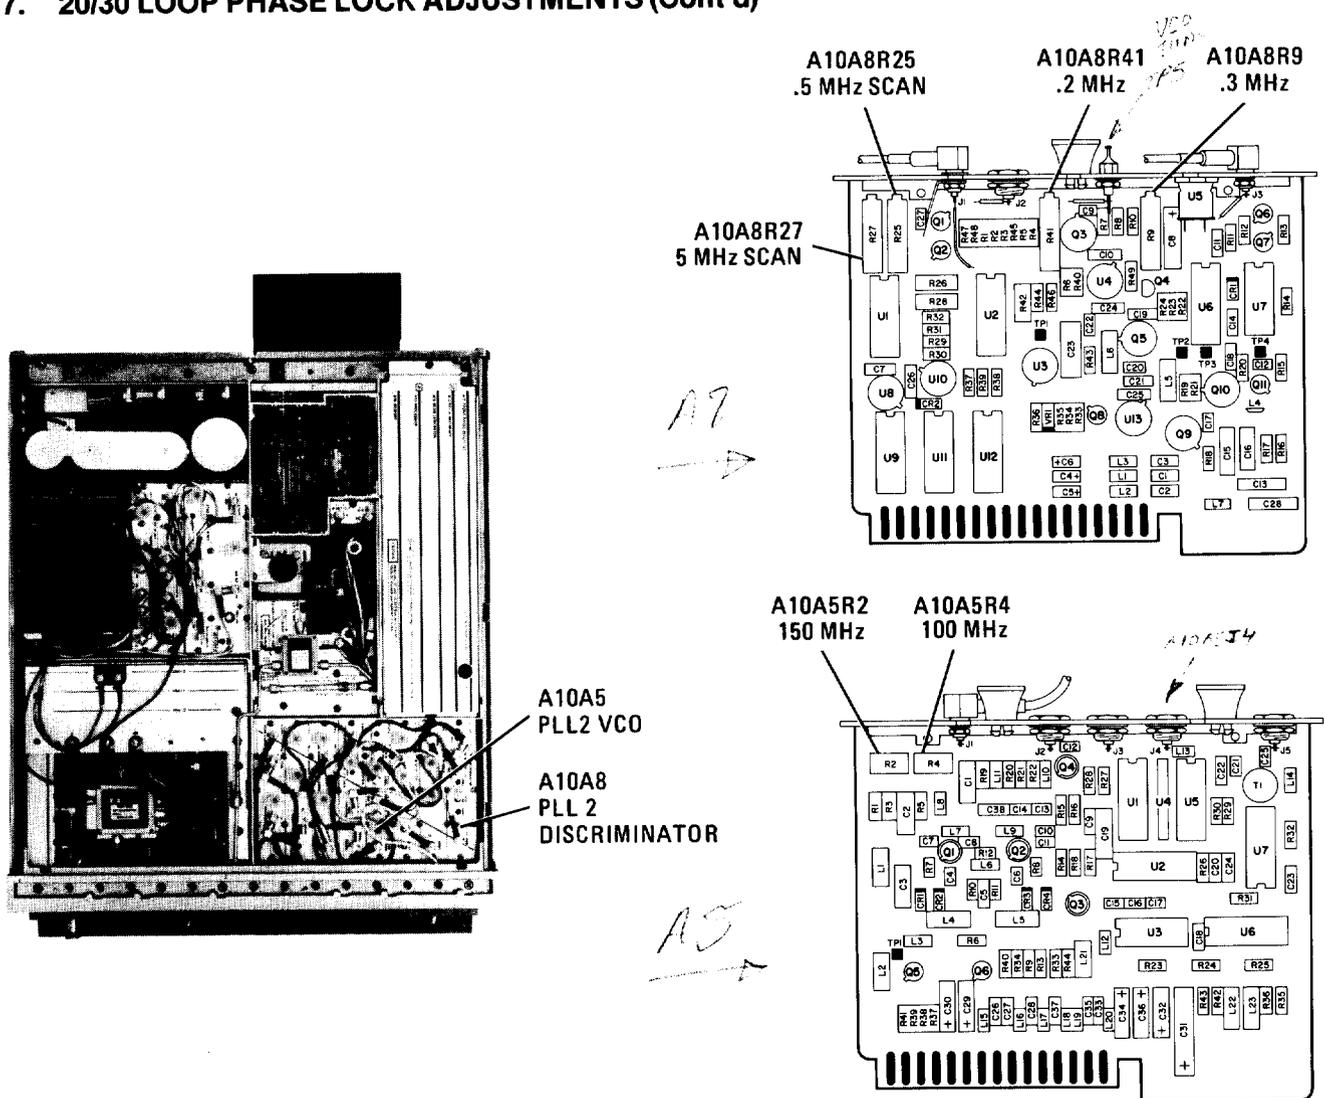

FIGURE 57. LOCATION OF PLL2 ADJUSTMENTS
6. Adjust A10A5R2 150 MHz adjustment for a DVM indication of $+3.0 \pm 0.5$ V. Refer to Figure 57 for location of adjustments.